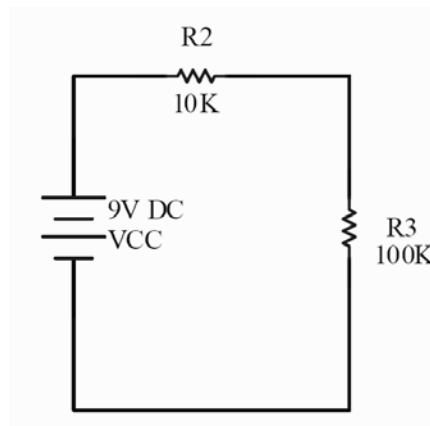

Figure 7 – Resistor Circuit
2. Measure and tabulate the actual and nominal value of the two resistors in figure 7. Calculate the voltage across R2 and R3 using the measured values of battery voltage and resistances. Build the resistor circuit and measure the voltage across R2 and R3. Tabulate the measured and calculated values, and comment on the similarities/differences.